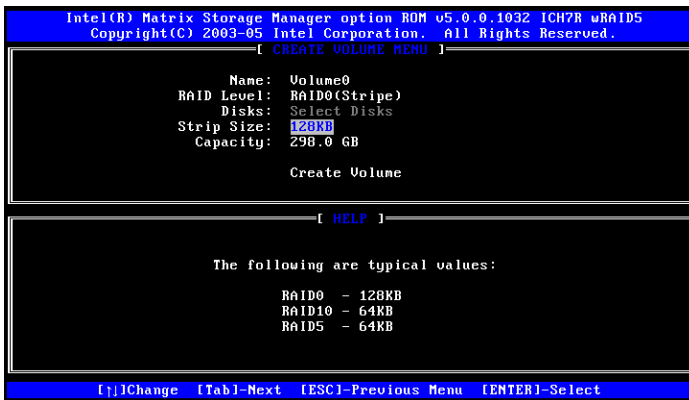

Figure E-4: Select the Stripe Size
Step 4: Select the **Stripe Size**. Select a stripe size from the list. See Figure E-4.